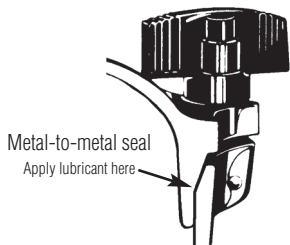

Fig. 1
3. **LUBRICATE METAL-TO-METAL SEAL** Apply lubrication to the entire beveled edge of the bottom (See Fig. 1). We recommend using a high temperature lubricant like high vacuum grease;